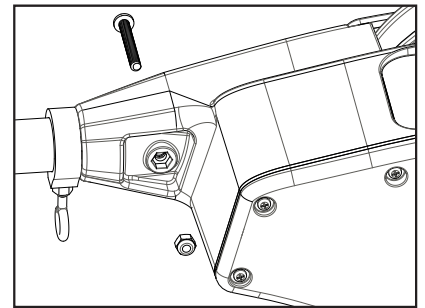

Figure 5
4. Remove 1/4-20 x 2" bolt and 1/4-20 nylon locknut from included hardware bag assembly. Insert the 1/4-20 nylon locknut into the hex pocket on the nose of the frame (motor side of frame) then insert 1/4-20 x 2" bolt into reel side of frame nose. (Figure 5)